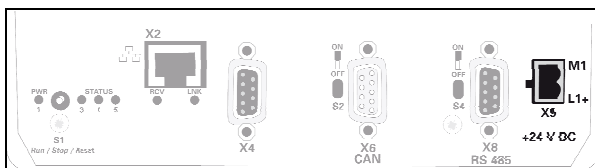

Fig. 14: Power supply
1. **Connecting the power supply:** Connect the power line using the supplied connector with the X9 interface (see Fig. 14/10).